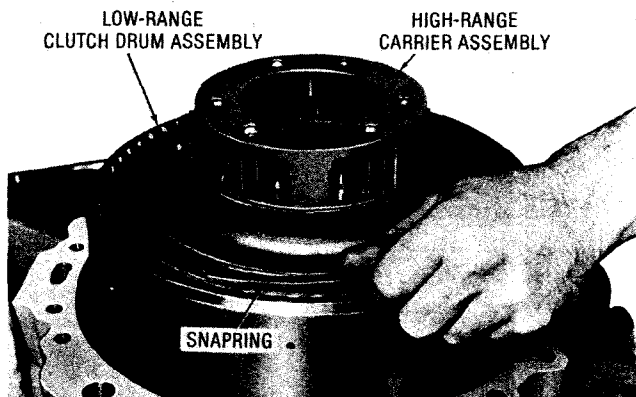

Fig. 7-55 Installing snapping retaining high-range planetary carrier assembly (TRT-3 overdrive)
(6) Install the high-range planetary carrier assembly and retain it with an internal snapping (fig. 7-55).
(7) Install high-range planetary sun gear 1 (foldout 14,B), meshing its teeth with the high-range planetary pinions.